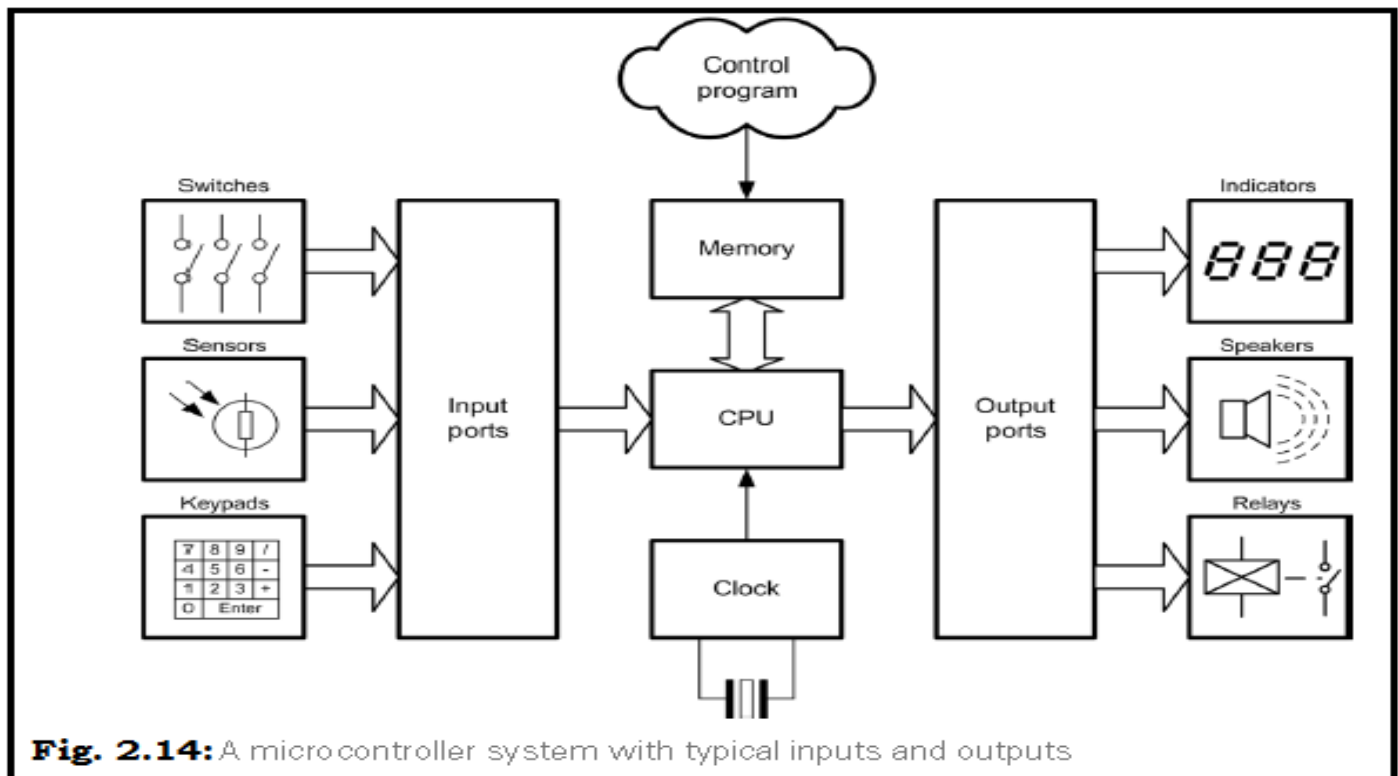

Fig. 2.14: A microcontroller system with typical inputs and outputs
- The data stored in the memory device is represented in kilobytes (KB). 1 Kilobyte = 1024 bytes. (Nearest power of 2 i.e. $2^{10} = 1024$)
- Microcontroller is a programmable device consisting of a central processing unit (CPU), memory, peripherals, and support circuitry on a single chip. Fig. 2.14 shows the arrangement of a typical microcontroller system.
- **Central Processing Unit (CPU):** CPU is the main component of the processor that contains Arithmetic Logic Unit (ALU) and Control Unit (CU). It is capable of performing simple arithmetic, logical and timing operations. It also communicates with devices like memory, input ports, output ports and clock unit.